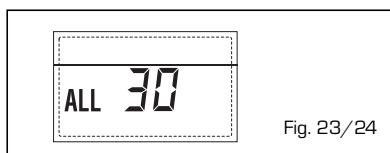

Fig. 23/24
**- ANOMALIA SONDA MANDATA CASCATA "ALL 31" (fig. 23/25)**